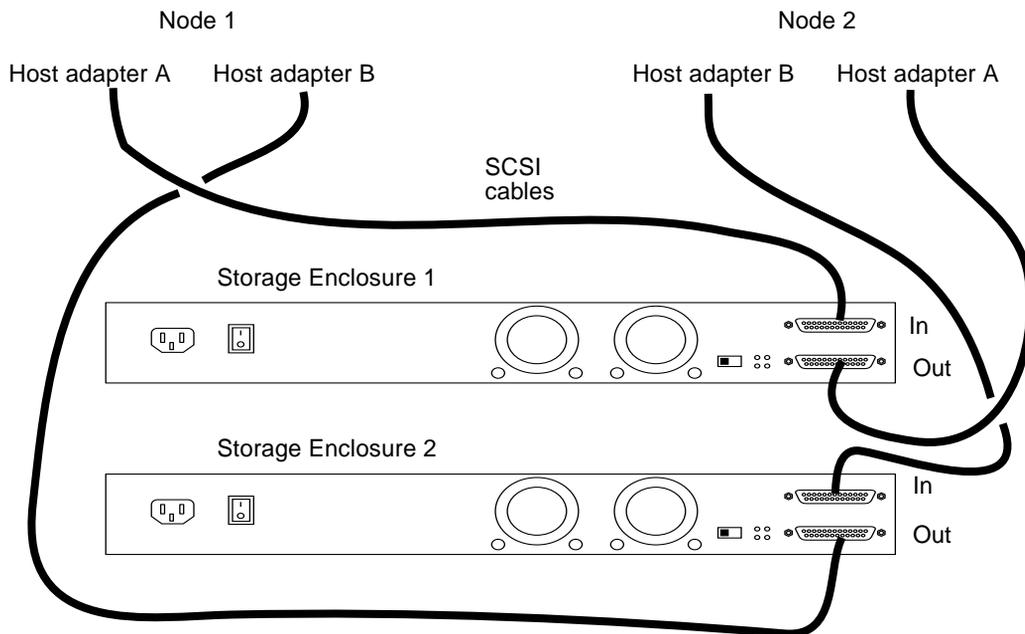

FIGURE 10-4 Example of SCSI Cabling for an Enclosure Mirrored Pair
1. Connect the cables to the Netra D130/StorEdge S1 enclosures, as shown in FIGURE 10-4.